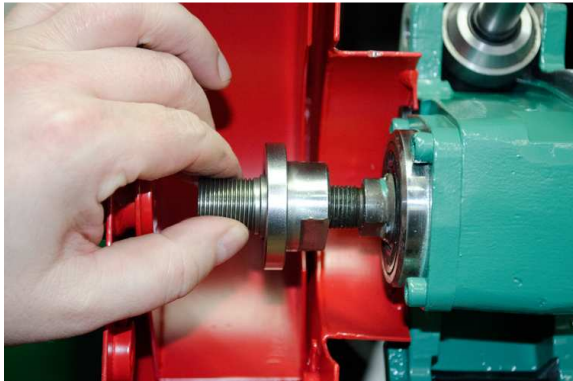

Fig. 10.1
- Remove the adapter for the blade. (see fig.10.1).